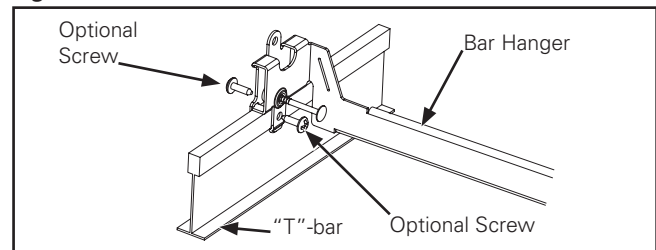

Figure 7.
1. Extend bar hangers and slide the slots in the mounting tabs over the T-bars. Optional fasteners can be used for attaching the bar hangers to the T-bar (Figure 7.).